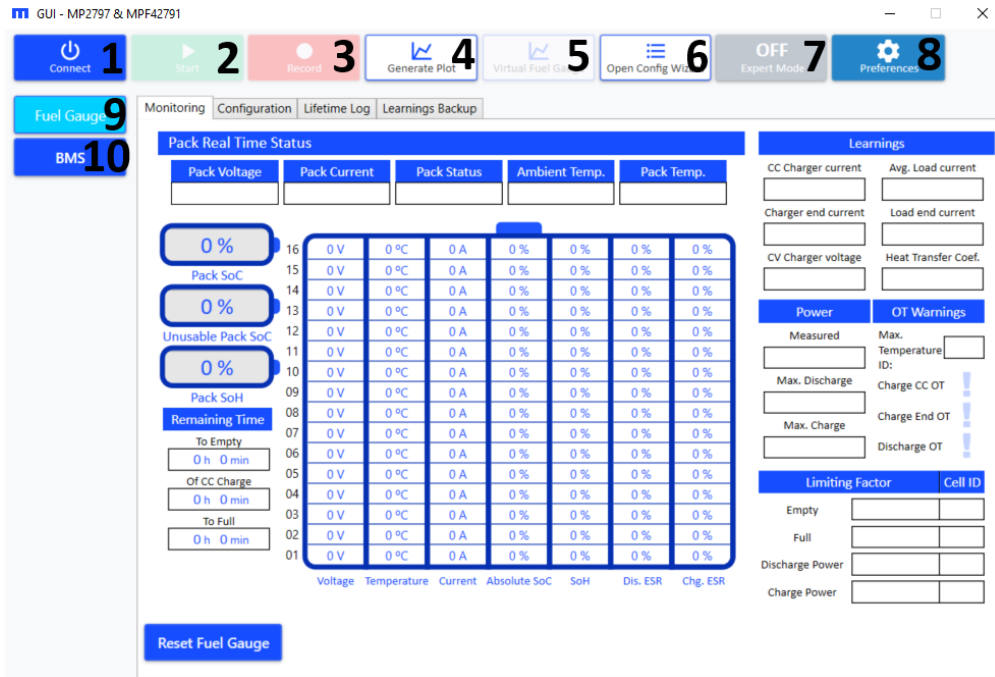
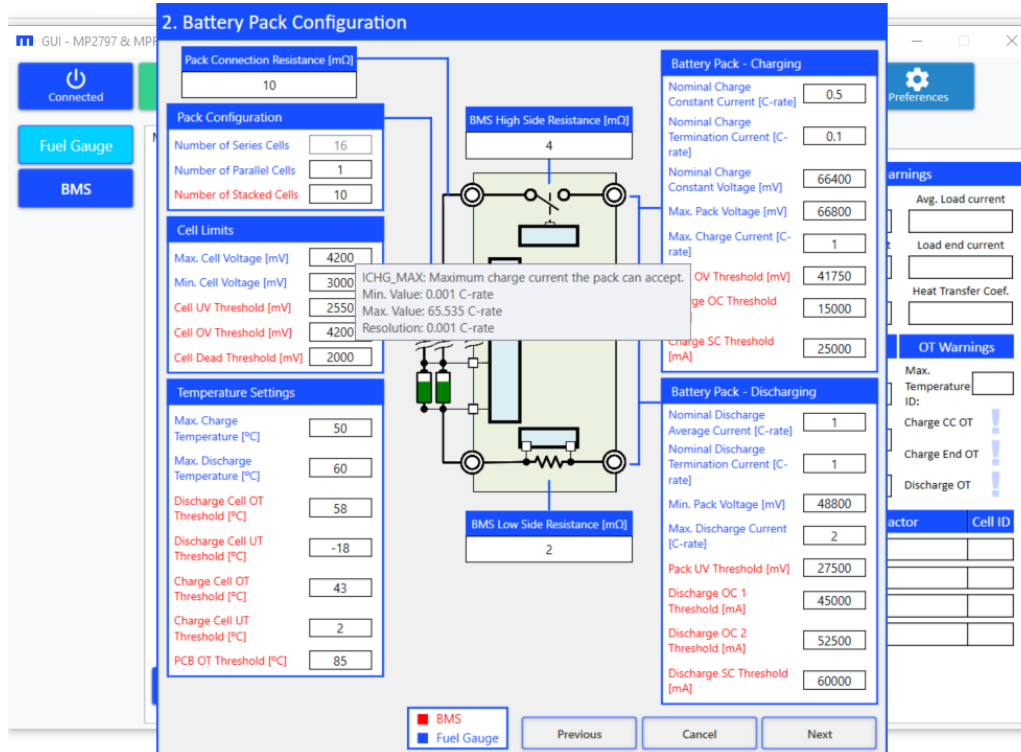
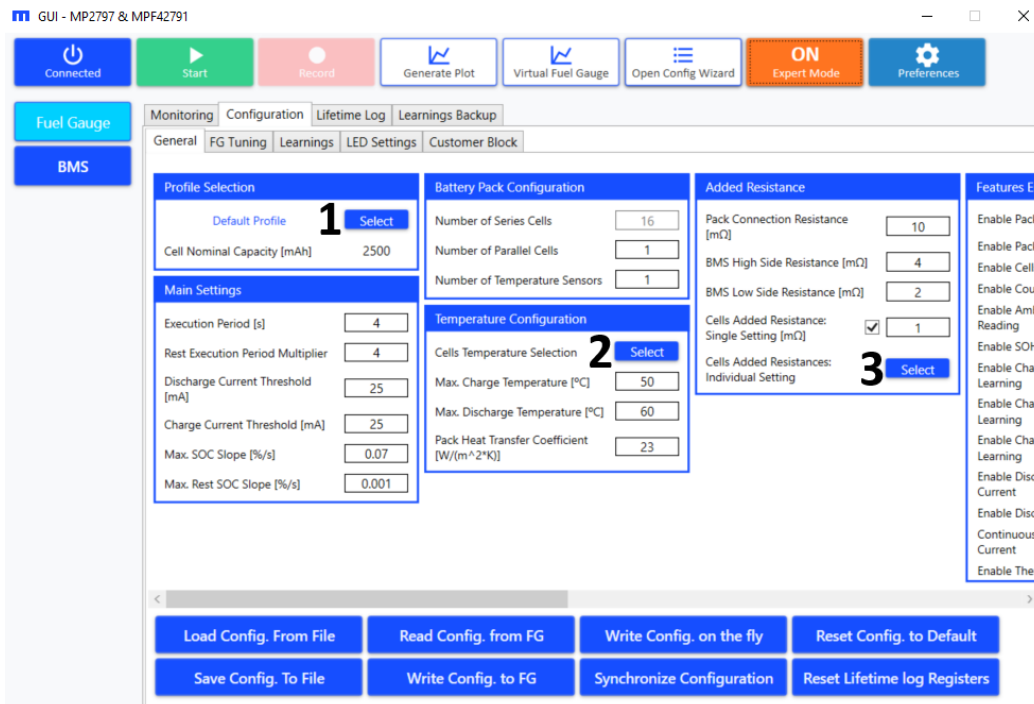

Figure 31: GUI Main Window
Figure 38: Configuration Wizard 3 – Battery Pack Configuration (Register Details)
Figure 41: Fuel Gauge Configuration – Expert Mode
- 4. The main window should pop up (see Figure 31 on page 26).
- Click “Connect” in the upper bar (denoted as “1” in Figure 31). A window with a drop-down menu should appear.
1. Click “Preferences” (denoted as “8” in Figure 31 on page 26). The Preference window should open.
3. The default values should be displayed on the screen (see Figure 31 on page 26). For example, “user” should target the desktop user that has access to the GUI. The default values are used the first time the GUI is opened, or if the user clicks “Default Values”.
4. Once the configurations have been made, click “Save” (see Figure 31 on page 26). The configurations should be saved.
2. Click “Open Config Wizard” (denoted as “6” in Figure 31 on page 26).
- Place the cursor on top of a register name to display the register's information (see Figure 38). For more detailed information on the fuel gauge registers, refer to the MPF4279x datasheet.
1. Click “Fuel Gauge” (denoted as “9” in Figure 31 on page 26).
3. To see the full set of registers to fine-tune the fuel gauge, select “Expert Mode” (denoted as “7” in Figure 31 on page 26). The full set of configuration registers should be displayed, as well as two extra sub-tabs: Learnings and Customer Block (see Figure 41). Figure 38 shows three “Select” buttons, discussed in greater detail below.
- c. The third “Select” button opens the wizard to introduce the added resistance from each cell’s connections (see Figure 41 on page 32). Alternatively, the “Cells Added Resistance: Single
Setting can set a single value for all cells. A checkbox in the window allows users to enable or disable this option (see Figure 41 on page 32).
1. Click “BMS” (denoted as “10” in Figure 31 on page 26).